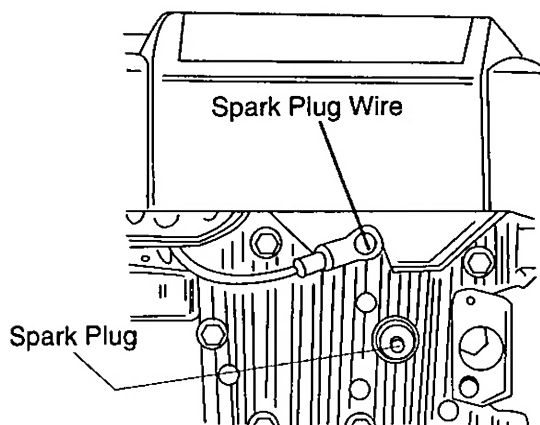

FIGURE 2. Grounding the Spark Plug Wire
Before setting up your lawn mower, disconnect the spark plug wire from the spark plug, and ground it against the engine. See figure 2.
2. Disconnect spark plug wire from the spark plug and ground it against the engine. On engines with a rubber boot, attach rubber boot to a bolt on the engine to ground. See figure 2.